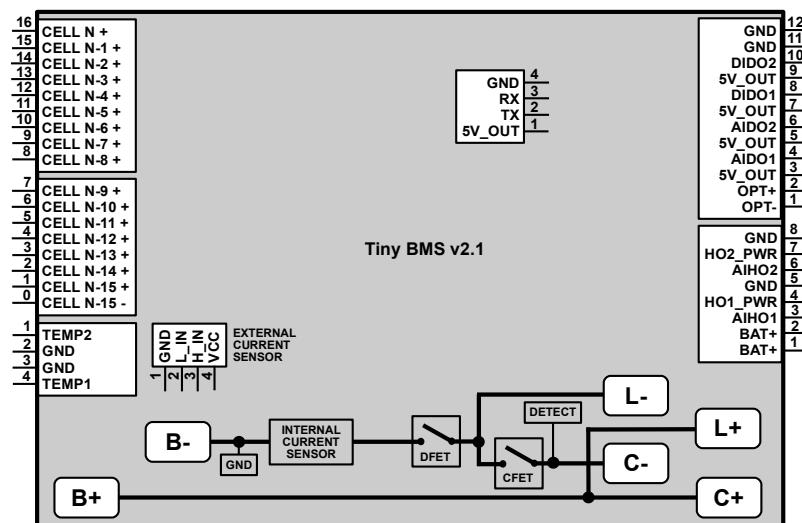
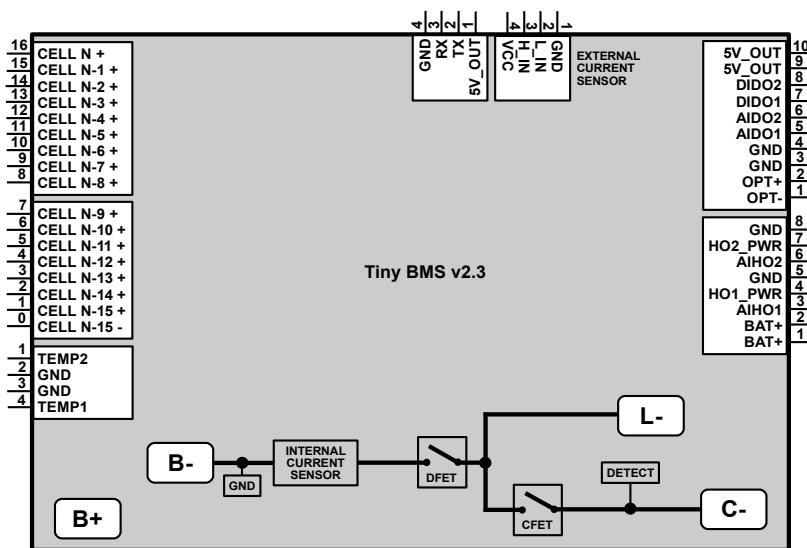

Figure 2.7: Tiny BMS v2.1 onboard connectors pinout
Figure 2.9: Tiny BMS v2.3 onboard connectors pinout
*Tiny BMS* onboard connectors and internal *FET* power switch wiring for all the released hardware versions are shown in *Figure 2.7* to *Figure 2.9*. The main difference there are no load and charger positive terminal solder-pads *L+* and *C+* on the board for native *Tiny BMS* versions. All cells measurement, temperature, current sensors, external hybrid I/Os (*AIHO1/2*) and communication connectors are fully compatible between all released hardware versions. Only one external analog and digital I/Os (*AIDO1/2*, *DIDO1/2*) connector is different for the latest 2.3 *Tiny BMS* hardware version. All connectors on the *Tiny BMS* board are compatible for *JST PH* series 2.0 mm pitch type connector or any other compatible connector.
Cells connectors ① and ② and its pinouts are identical for all released *Tiny BMS* hardware versions (*Figure 2.7* to *Figure 2.9*). There is a 9 pin connector ① for uppermost battery pack cells and the 8 pin connector ② for lowermost battery pack cells. Cell count starts from most lowest cell of the battery pack negative terminal (-). In *Figure 2.7* cells connector numbering is shown for battery pack made of 16 in series connected cells. If less in series connected cells are needed, the lowest cell connector pins should be skipped and left unconnected. The positive terminal of the highest cell in battery pack must be connected to 16-th pin on the *Tiny BMS* connector *Pin 16 CELL N +*. Below is a formula to determine which *Tiny BMS* cell connector pin should be used to connect cell's positive terminals (+):
*Tiny BMS* has external analog / digital and hybrid input / output pins, which are multi-purpose and can be used either as inputs or outputs (*Figure 2.7 to Figure 2.9 Tiny BMS pinouts*). Each pin can be mapped to different *BMS* features. External *BMS* I/O pins as inputs can be programmed to act as ignition switch, external charger detection input or speed measurement input from motor or other sensor. The *BMS* I/O pins as outputs can be programmed to control external load, charger and precharge relays / contactors or another compatible circuitry for switching of high current. These external I/O are devided into three groups: analog I/O (*AIDO 1/2*), digital I/O (*DIDO 1/2*) and hybrid I/O (*AIHO 1/2*). *AIDO* I/O's can measure analog input voltage from interval: battery minus *B-* to battery plus *B+*. If *AIDO* I/O is configured as output, it can sink up to 250 mA current. *DIDO* I/O's can tolerate input voltages from interval *B-* to *B+*, but logic state voltage levels are same as 3.3 V CMOS (for actual levels refer to *Tiny BMS datasheet*). *DIDO* also can sink up to 250 mA current, if configured as output. *AIHO* I/O's can measure input voltage from interval *B-* to *B+*. If configured as output, *AIHO* I/O can supply up to 250 mA current from *AIHO* supply pin to *AIHO* I/O pin. *AIHO* may be supplied with voltages from interval *B-* to *B+*. Because of *AIHO* supply pin, *AIHO* output voltage levels depends on supplied voltage on *AIHO* supply pin. *AIHO* also can sink up to 250 mA current. *Table 2.4* shows which *BMS* features can be mapped with each *BMS* external I/O pin. More information about how to setup external pins for specific features refer to *Chapter 4*. Also all *BMS* hardware versions have optocoupler output left for future features or client specific functionality. Optocoupler output collector and emitter of optocoupler's transistor side are available. By using common emitter or emitter repeater topology selected signal polarity may be designed. External circuit should have pull-up resistor and should supply collector current.